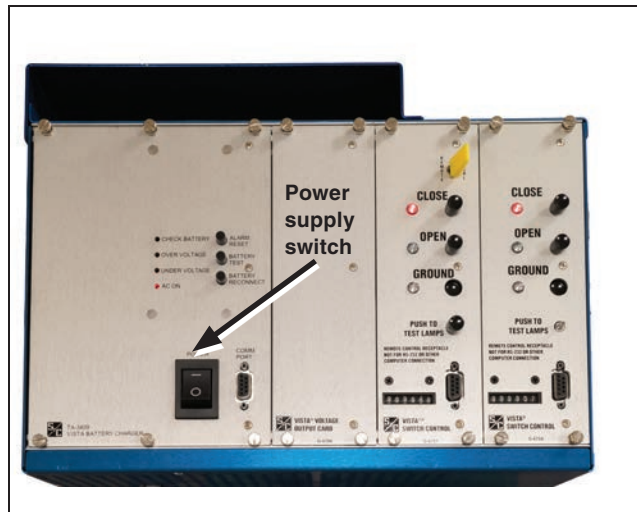

Figure 34. Vista rack with closed, open, ground LEDs and controls.
STEP 1. When all of the preceding steps have been successfully completed, turn on the power supply power switch. See Figure 34. This will connect ac power to the battery charger and to the motor operator controls.